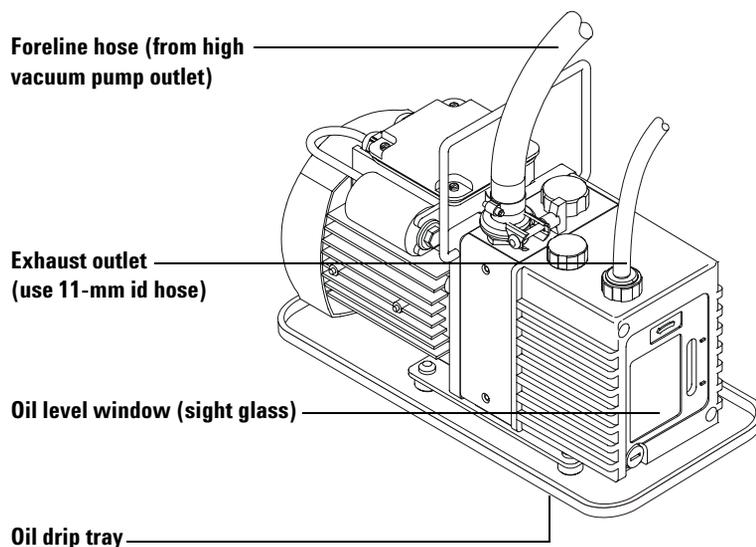

Figure 12 Preparing the vacuum system
- 4 Place the oil drip pan under the foreline pump as shown Figure 12 on page 69.